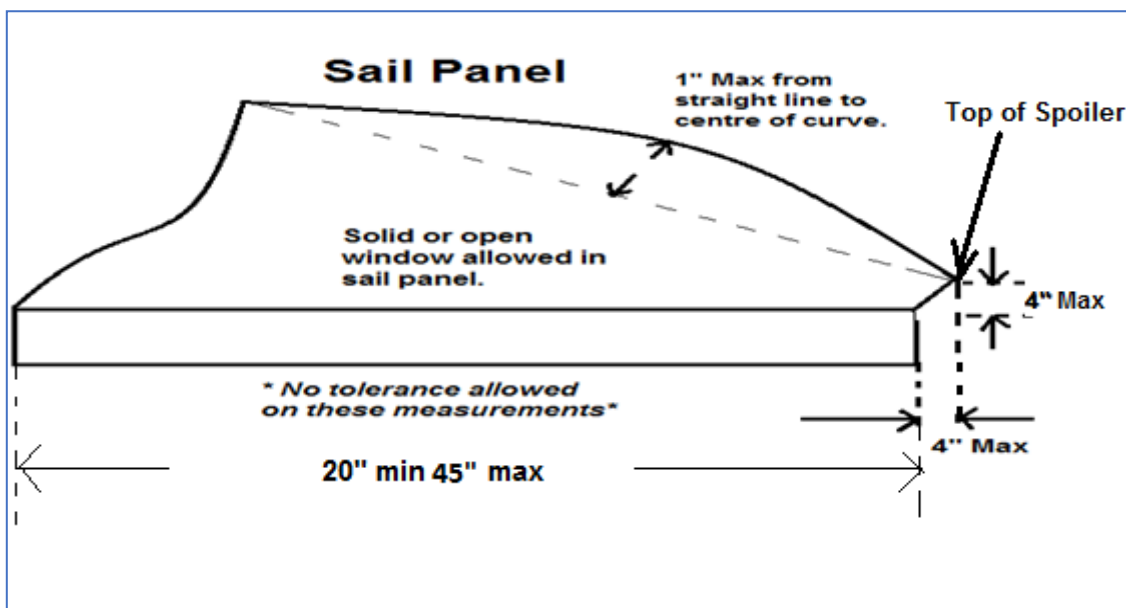

Figure 7
10.3 Sail panel may be no higher than 1" (one) inch above and no lower than 3" (three) below an imaginary straight line from the rear edge of roof panel to 4" above the top edge of the back of the rear quarter panel (top of spoiler if used). Measurements are taken looking from the side elevation (*Figure 7 & 8*).
13.1 A one piece, aluminium or Lexan spoiler with a maximum height of 4 inches above the back of the rear deck will be permitted. The top of the spoiler may extend past the end of the rear deck by 4" (*Figure 7 & 8*).